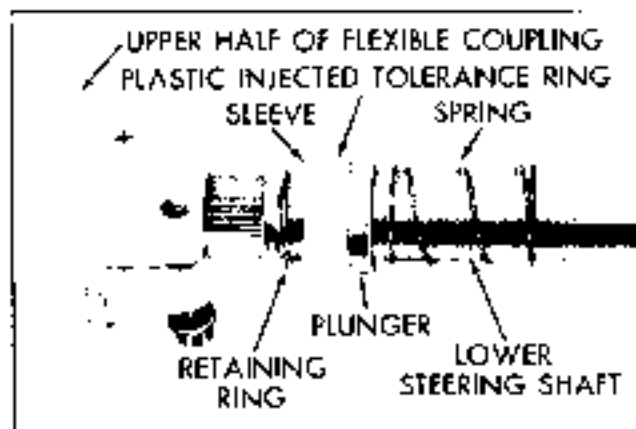

Fig. 9-27 Removal of Lower End
15. Remove steering shaft from column by sliding shaft out upper end of column. On Pontiac and Firebird models it will be necessary to remove a snap ring, plastic tolerance ring and lower bearing preload spring prior to removing steering shaft (Fig. 9-27).